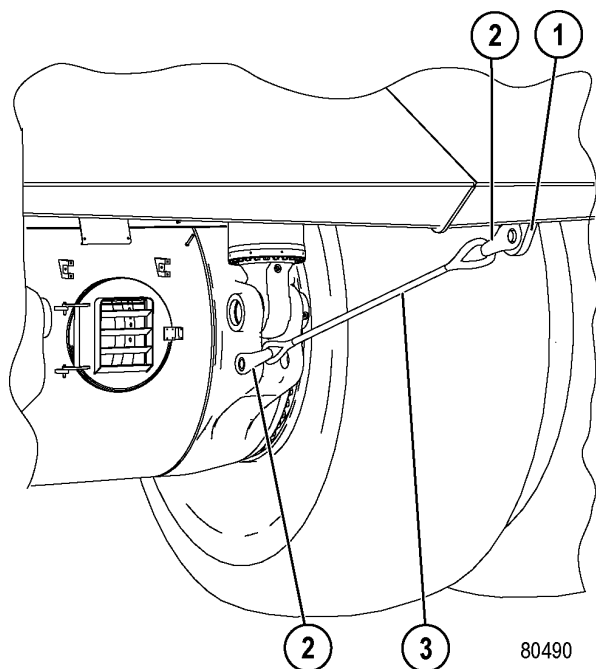

FIGURE 00-1. BODY RETENTION SLING INSTALLATION
2. Install two shackles (2, Figure 00-1) and body retention sling (3) between rear body ear (1) and the axle housing.